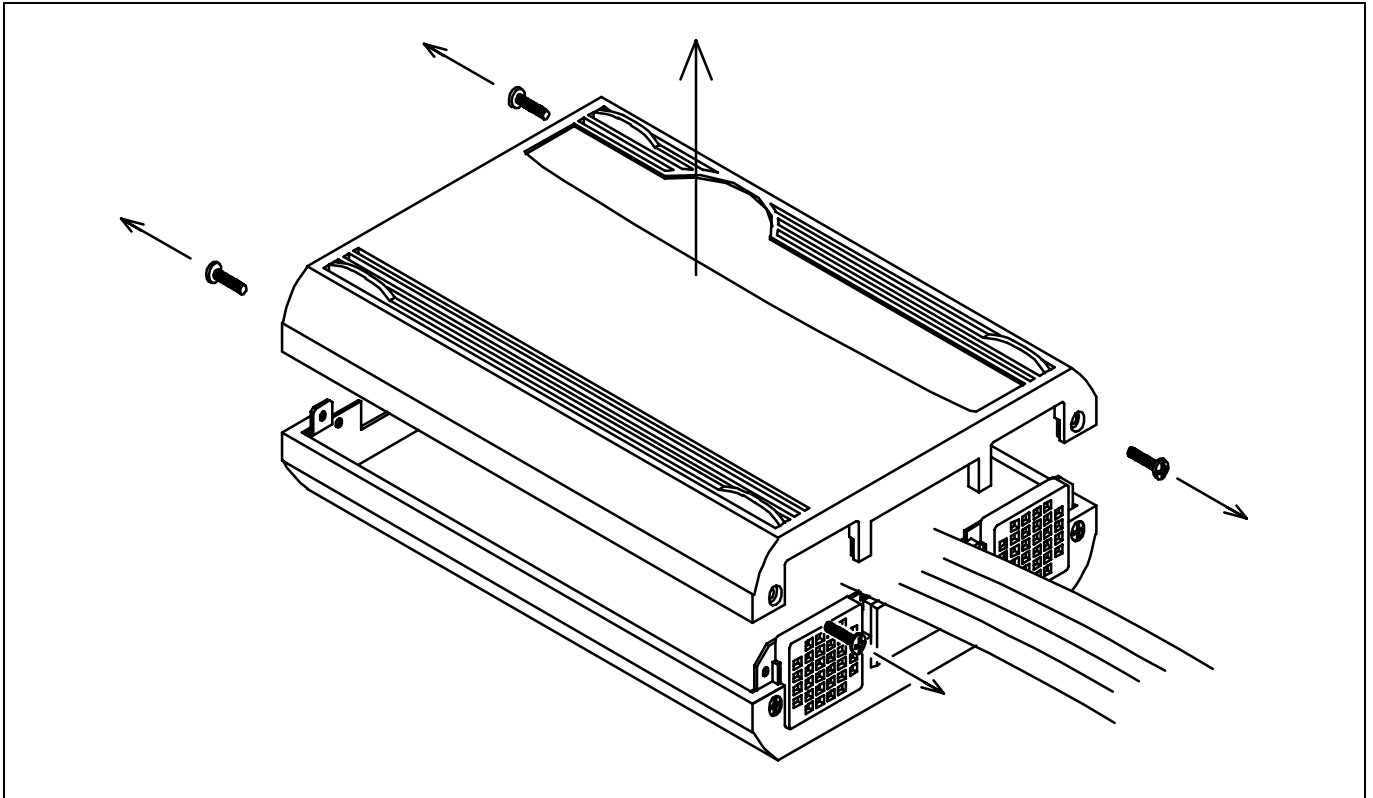

Figure 2.14 Removing the upper cover
1. Remove the four screws of both sides of this product and lift off the upper cover (see Figure 2.14).